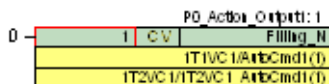

Figure 52. Step Filling, PO Action Diagram Online
- the action sub-diagram, see Figure 52.